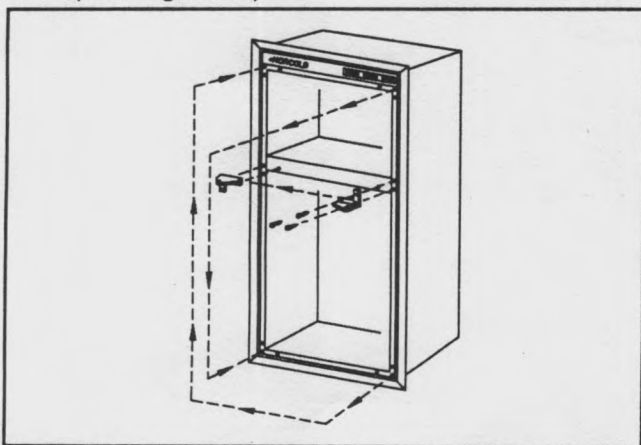

Figure 19
5. Remove the middle hinge bracket by using the #2 Phillips screwdriver and taking out the three screws holding it in place. Next, with fingernails, lift and remove the three hole plugs on the opposite side corresponding to the center hinge location. Relocate them in the holes just exposed by the removal of the hinge bracket. Using the same screws, attach the hinge bracket to the refrigerator where the hole plugs previously were. Do not tighten screws completely. (See Figure 19)